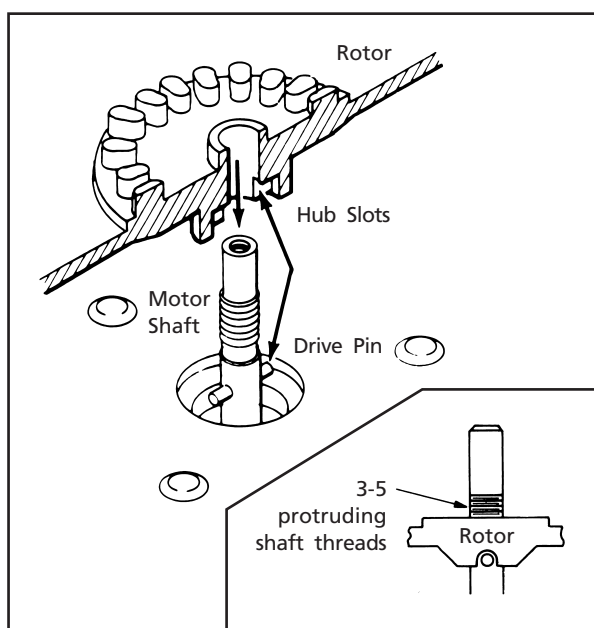

Figure 3-4. Installing Rotor Assembly.
- Position the rotor so that the slots on the underside of the rotor hub are aligned with the drive pin in the motor shaft (Figure 3-4).